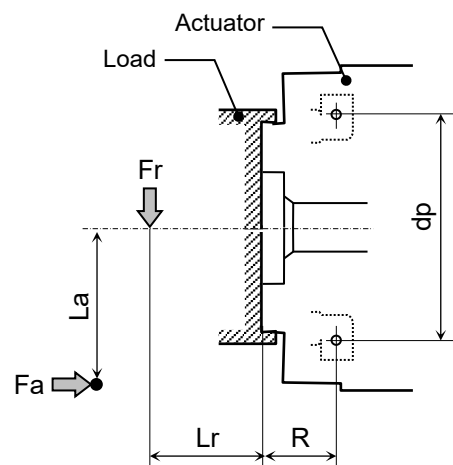

Fig.1 Loads
F_{rmax} : Maximum radial load in N(kgf); See Fig.1.
F_{amax} : Maximum axial load in N(kgf); See Fig.1.
L_r , L_a : Loading point in mm; See Fig.1.
R : Offset; See Fig.1 and Table 1.
Fr_{max}: Maximum radial load in N(kgf); See Fig. 1.
Fa_{max}: Maximum axial load in N(kgf); See Fig. 1.
L_r, L_a: Loading point in mm; See Fig. 1.
R: Offset; See Fig. 1 and Table 1.
dp: Circular pitch of roller: See Fig. 1 and Table 1.
- F_{rav}: Average radial load in N(kgf); obtained by formula (2).
- F_{aav}: Average axial load in N(kgf); obtained by formula (3).
- dp: Circular pitch of roller: See Fig.1 and Table 1.
- X: Radial load factor; obtained by formula (5)
- L_r, L_a: Loading point in mm; See Fig.1.
- R: Offset; See Fig.1 and Table 1.
- M_{max}: Maximum torsional moment in N•m(kgf•m); obtained by the formula (1)
- F_{rmax}: Maximum radial load in N(kgf); See Fig. 1.
- F_amax: Maximum axial load in N(kgf); See Fig. 1.
- d_p: Circular pitch of roller: See Fig. 1 and Table 1.